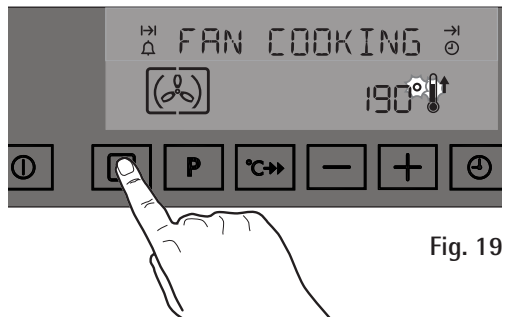

Fig. 19
5. If you touch the "Cooking Function" control , the temperature display reverts to the selected temperature and symbol "●" flashes for 5 seconds (Fig. 19). During this interval, you can adjust the temperature setting by touching control  or .